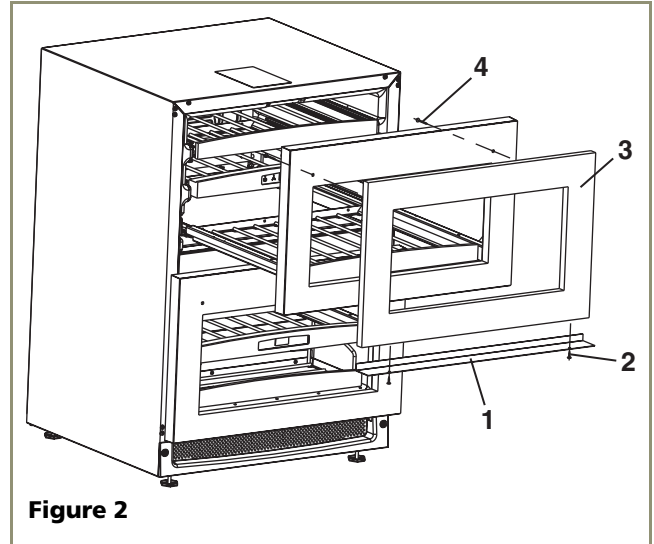

Figure 2
3. Place finished drawer overlay panel (see **Figure 2, 3**) over front of drawer and using masking tape, tape to front of drawer, making sure to center overlay and making the top and bottom flush with drawer.
4. Place drawer overlay bracket (see **Figure 2, 1**) on bottom of drawer making sure to catch the back of the drawer with the short lip on bracket.
9. Attach the bottom bracket to the wood using 2 of the $\frac{5}{8}$ " screws (see **Figure 2, 2**) included with the unit.
11. Secure the top of the wood panel by placing 2 of the $1\frac{1}{2}$ " wood screws (see **Figure 2, 4**) through the top holes in the drawer, and tighten securely.